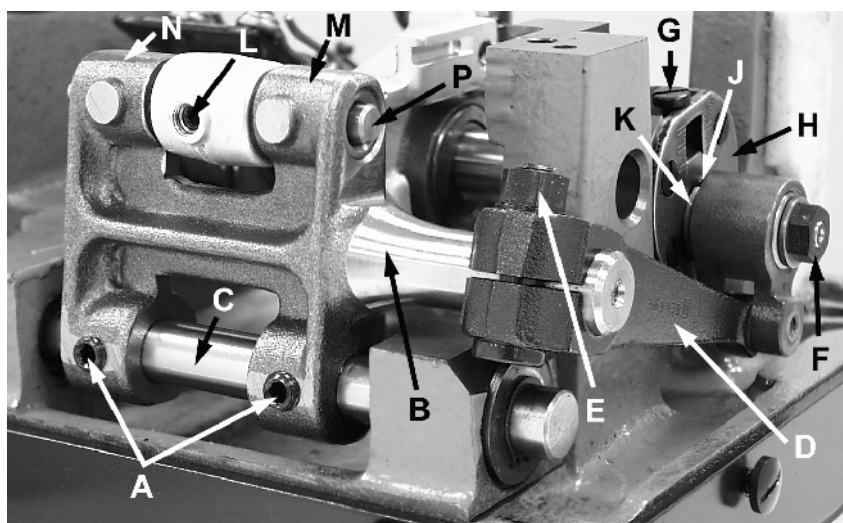

Fig 11
Right to left adjustment can be made by loosening screws (A, Fig. 11) and slightly move feed rocker (B) on feed rocker shaft (C) as required, then retighten screws. Check to ensure that feed rocker arm (D) does not bind after adjustment.
Forward or rearward centering of feed dog can be accomplished by loosening nut (E, Fig. 11), move feed rocker (B) as required and retighten nut.
Set the stitch to required length. This is accomplished by loosening lock nut (F, Fig. 11) 1/2 turn, (it has a left hand thread) on the end of the stitch regulating stud and turning stitch adjusting screw (G) located under the left end of the cloth plate in the head of the mainshaft (H), which is marked with "L" and "S". Turning the screw in a clockwise direction shortens the stitch (moves stitch regulating stud toward the "S") and turning it in a counterclockwise direction lengthens the stitch (moves stitch regulator stud toward the "L"). Retighten the lock nut securely. To prevent destructive damage to the feed drive bearing, key screw (J) must engage the "U" shaped key slot in ferrule (K).
The feed rocker assembly may require lubrication and repair after years of operation. This can be accomplished as follows: Loosen nut (E, Fig. 11) and remove nut (F). Remove feed rocker arm (D) from machine by rocking slightly. Loosen screws (A) and remove stop collar on right end of shaft (C). Shaft can now be withdrawn. Loosen Allen screw (L) and remove shaft (P), Now repack bearings.
When packing bearings, parts must be clean and grease should be applied directly from the tube to avoid contamination. Tube of grease can be ordered under part No. 28604 P. Greased bearings are located at (N, M, Fig. 11). If grease sealed bearings are replaced, they should be pressed in flush with the casting. To assemble, start tapered end of shafts first, twisting slightly when entering the grease seals to prevent damage. Check for proper adjustment of feed dog as described under the "Feed Dog Settings". Also check to see that there is no binding at any point.